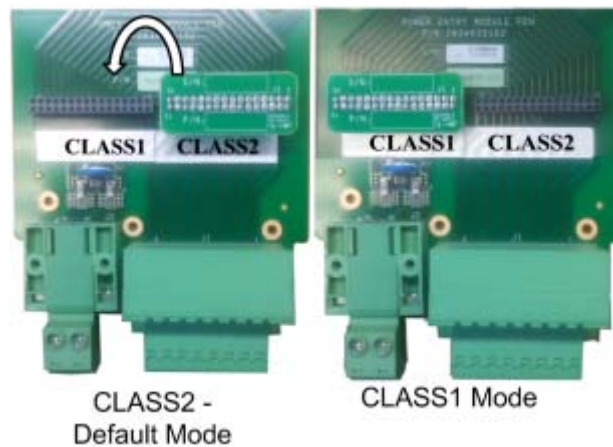

Figure 4-11. Setting CLASS1 Mode
2. Move DC bridge from CLASS2 position to CLASS1 to set DC input source type to 'CLASS1' connector. Refer to Figure 4-11.